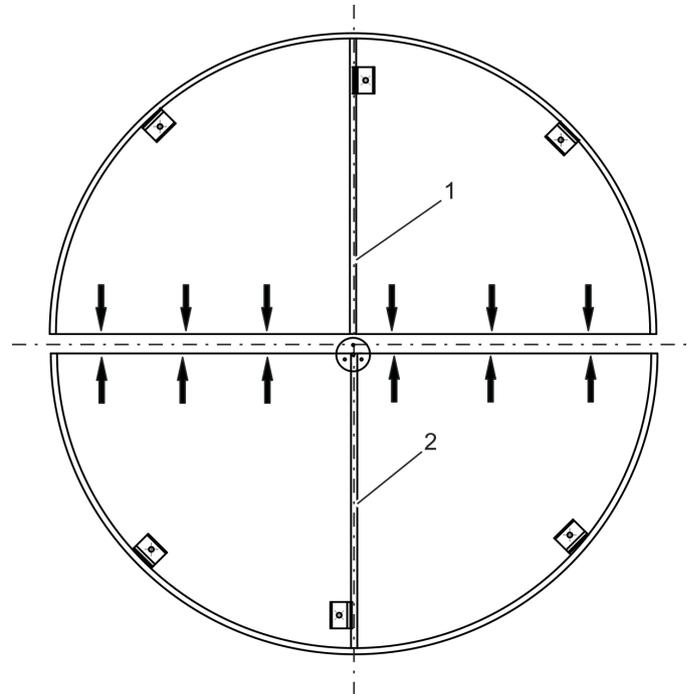

Fig. 29 Floor ring halves
1. Screw together floor ring halves (Fig. 29/1 + 2) at the marked points (Fig. 29/↑ + ↓).